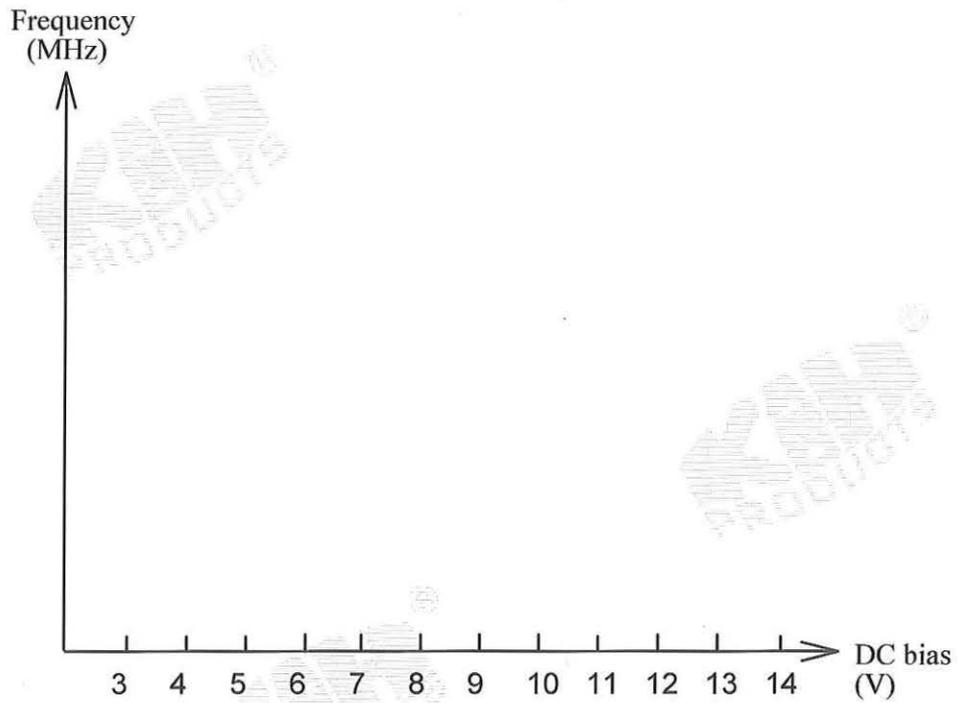

Fig.7-6
- 4. Using the results of Table 7-1, plot frequency vs. voltage curve in Fig. 7-6.
2. Examining the Frequency vs. Voltage curve of Fig. 7-6, which portion on the curve is suitable for implementing a frequency modulator?